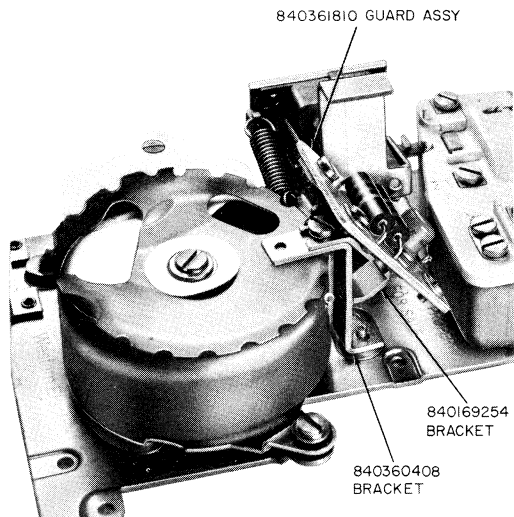

Fig. 4—Installation Location of Components to Add Polarity Guard Feature
- (1) When the customer's antique-decorator housing is intended to be used with TOUCH-TONE service, install a D-180460 Kit of Parts.
- (2) Refer to Table B for dial connections.
3.07 If a polarity guard is required in conjunction with a 35Y3A TOUCH-TONE dial, install a D-180461 guard assembly, which consists of guard assembly, brackets, screws, and a printed wiring board assembly. The polarity guard is installed when specified by local instructions for end-to-end signaling purposes when battery and ground reversals are encountered. Refer to Fig. 4 for location and Table C for connections.